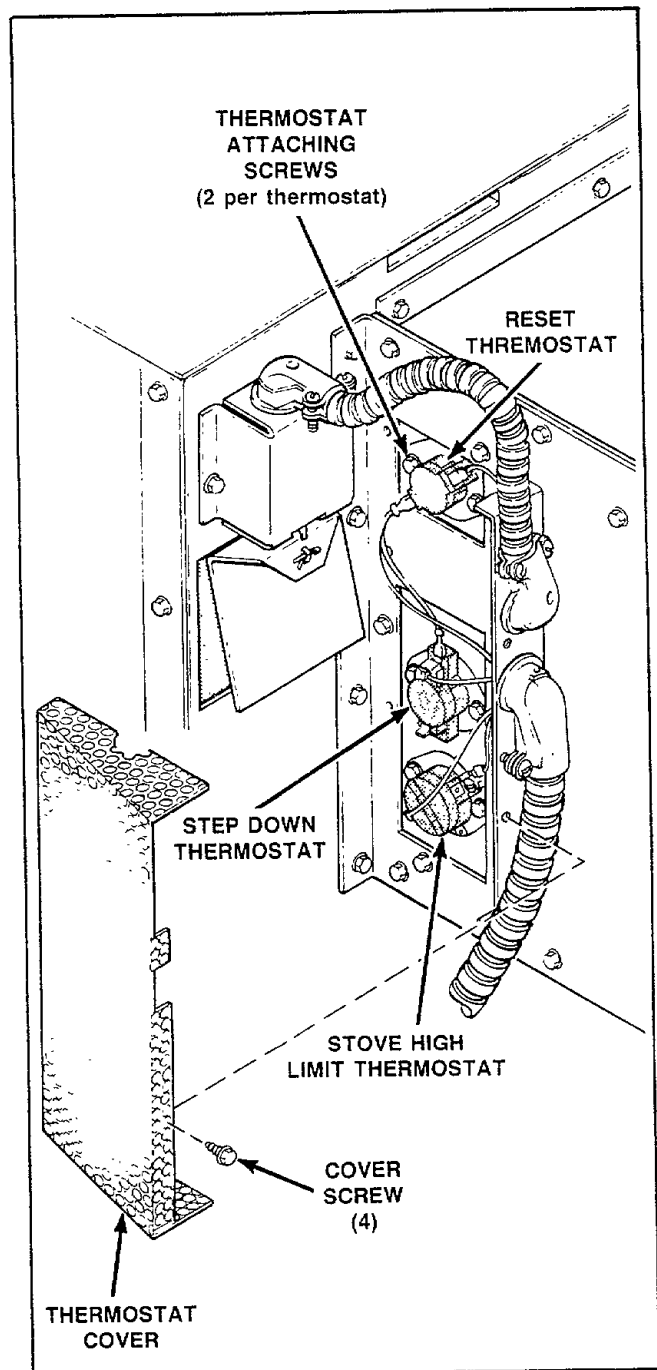

Figure 21
25. STOVE HIGH LIMIT THERMOSTAT, RESET THERMOSTAT AND STEP DOWN THERMOSTAT (Figure 21)